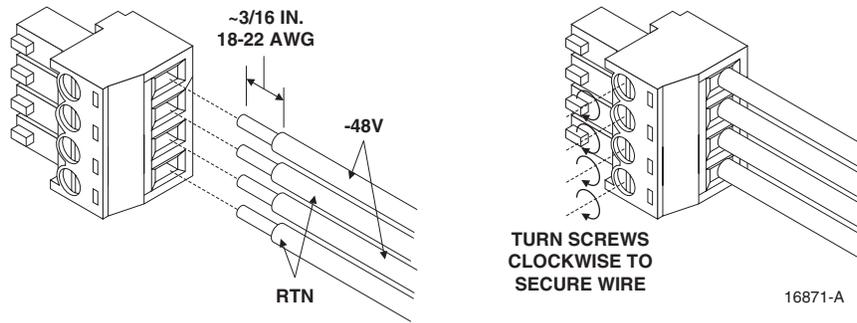

Figure 6. -48Vdc Input Power Connector, Wiring
7. For wire connection, insert wire into wire slots on the male connector as shown in Figure 6. Wire should be stripped to approximately 3/16-inch. Secure wire by tightening the top small screws on the male connector.